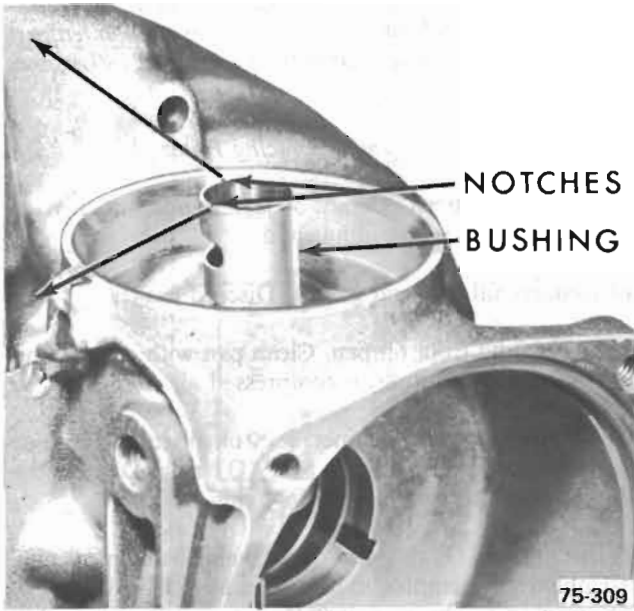

Figure 76-284
- a. Note the two (2) notches at one end of the bushing.
- b. Position the notches so that one notch is toward the front of the case and the other is toward the bottom of the case. See Figure 76-284.